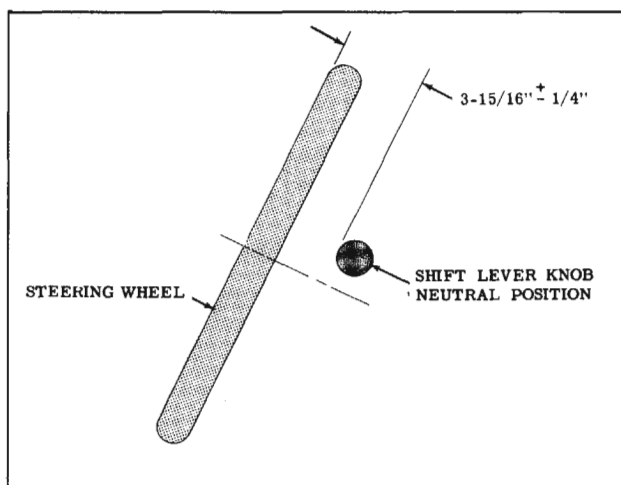

Fig. 11-2 Position of Shift Lever
2. With the transmission selector lever "C" rearward against its stop, adjust clevis "D" so that the clevis pin will easily enter the hole in lever "E" while holding the cross shift lever rearward to take up the lash. Then remove the clevis pin and lengthen the rod by five full turns of the clevis. This should bring the hand shift knob to within  $3-15/16" \pm 1/4"$  of the top of the steering wheel. (Fig. 11-2)